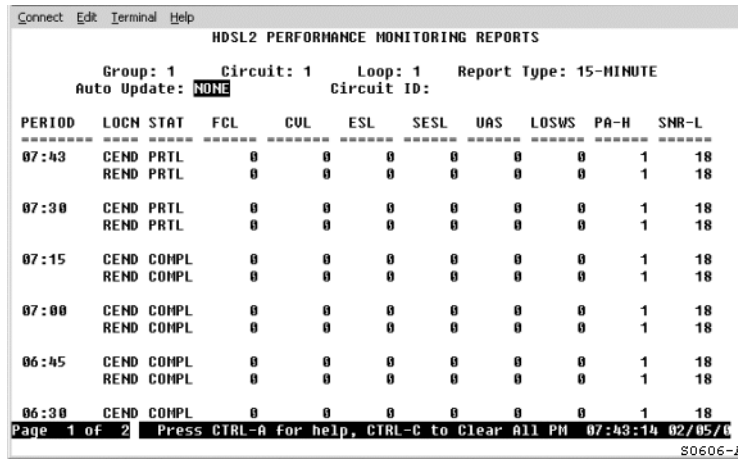

Figure 11. HDSL2 Performance Monitoring Reports Screen
- 4 In the HDSL Performance Monitoring Reports selection screen, select the **Group** and **Circuit** containing the H2LXC for which a report will be generated. Press the **ENTER** key. The HDSL2 Performance Monitoring Reports screen appears as shown in Figure 11 on page 21.